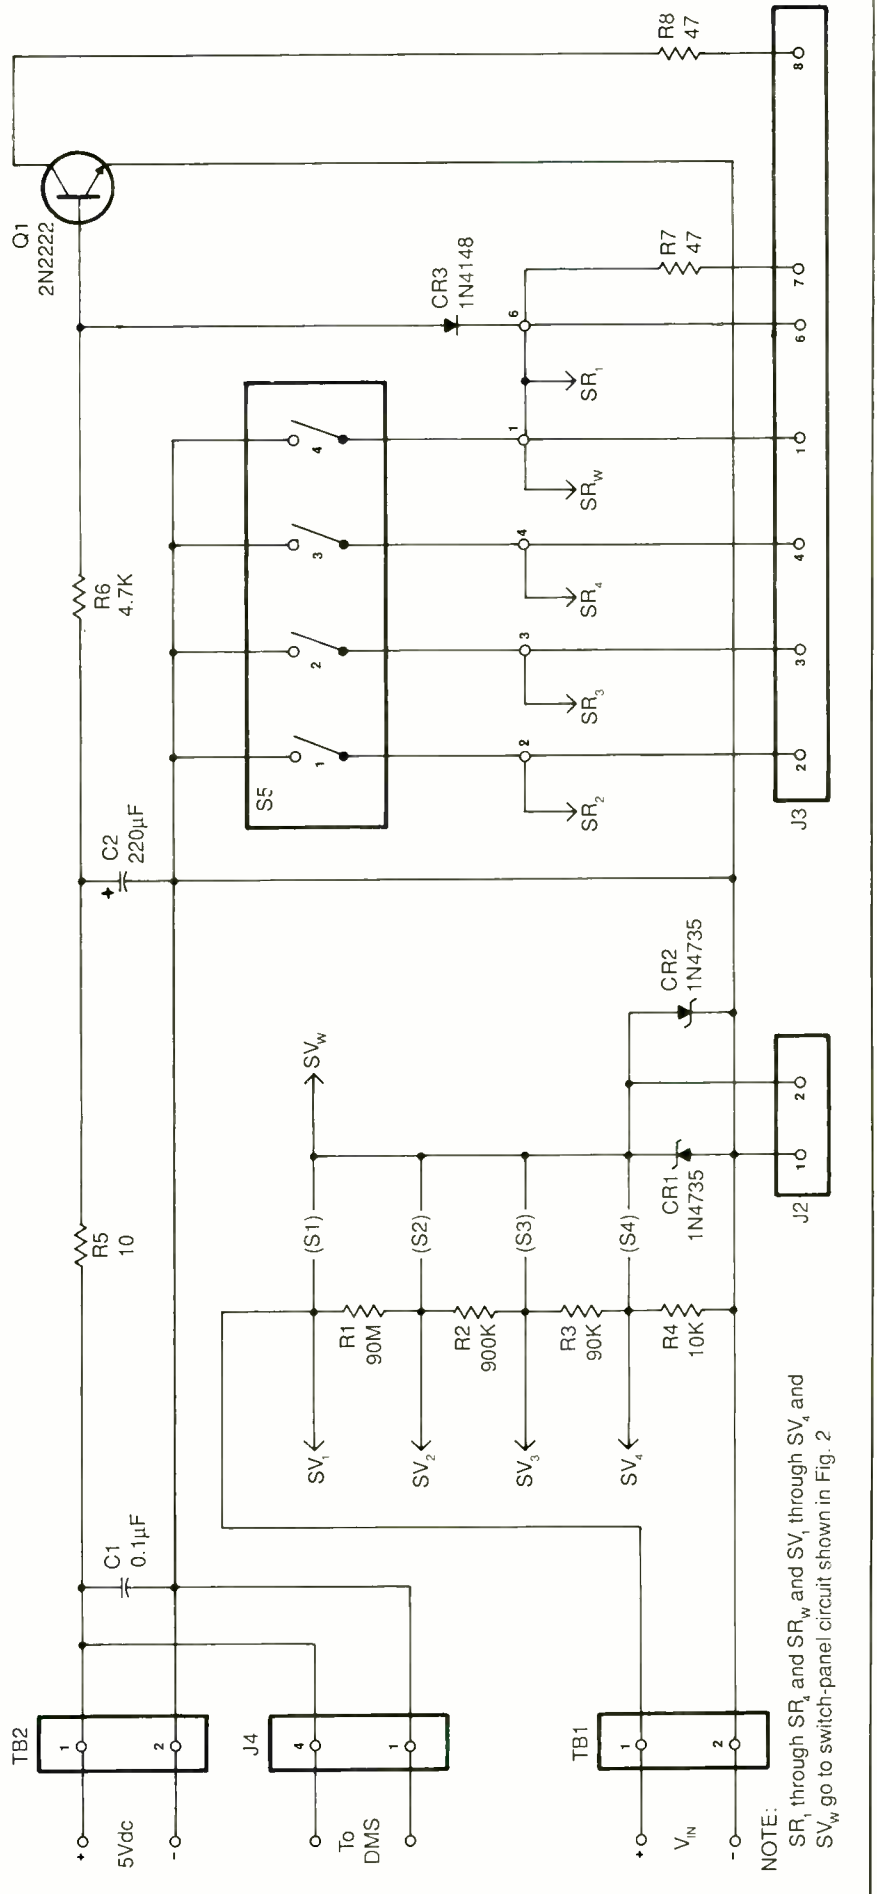
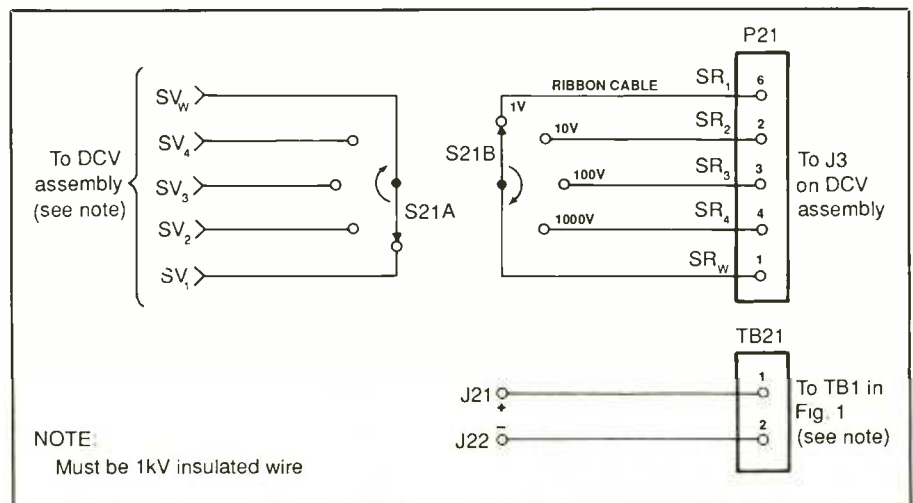

Fig. 4. Schematic diagram of DigiVolt-DC accessory.
Fig. 5. An optional four-range add-on module for basic accessory shown in Fig. 4.
• **Selectable-Range Meter.** The DMS can be made into a selectable-range meter by adding to it a module containing a resistive divider network and a variety of switching options. This is the DigiVolt-DC add-on module, which is shown schematically in Fig. 4. With the optional four-position switch in Fig. 5, you have ranges that allow you to set the DMS for any range from 0 to between 0.999 to 999 volts full-scale.
The proper divider ratio for the desired range is selected by screw switches S_1 through S_4 in Fig. 4. The signal from the selected division point is fed to the DMS for display.
DIP switch *S5* permits selection of decimal point and range indication. Remote range selection is made possible with the Fig. 5 optional switch subassembly. When this option is used, it replaces the screw and DIP switches in the Fig. 4 circuit.
Light-emitting diodes on still another separate subassembly provide visual indication of the range selected. These connect into the Fig. 4 circuit via contacts 7 and 8 on *J3*. Contact 7 ties to the anode of the mV LED, contact 8 to the anode of the V LED.